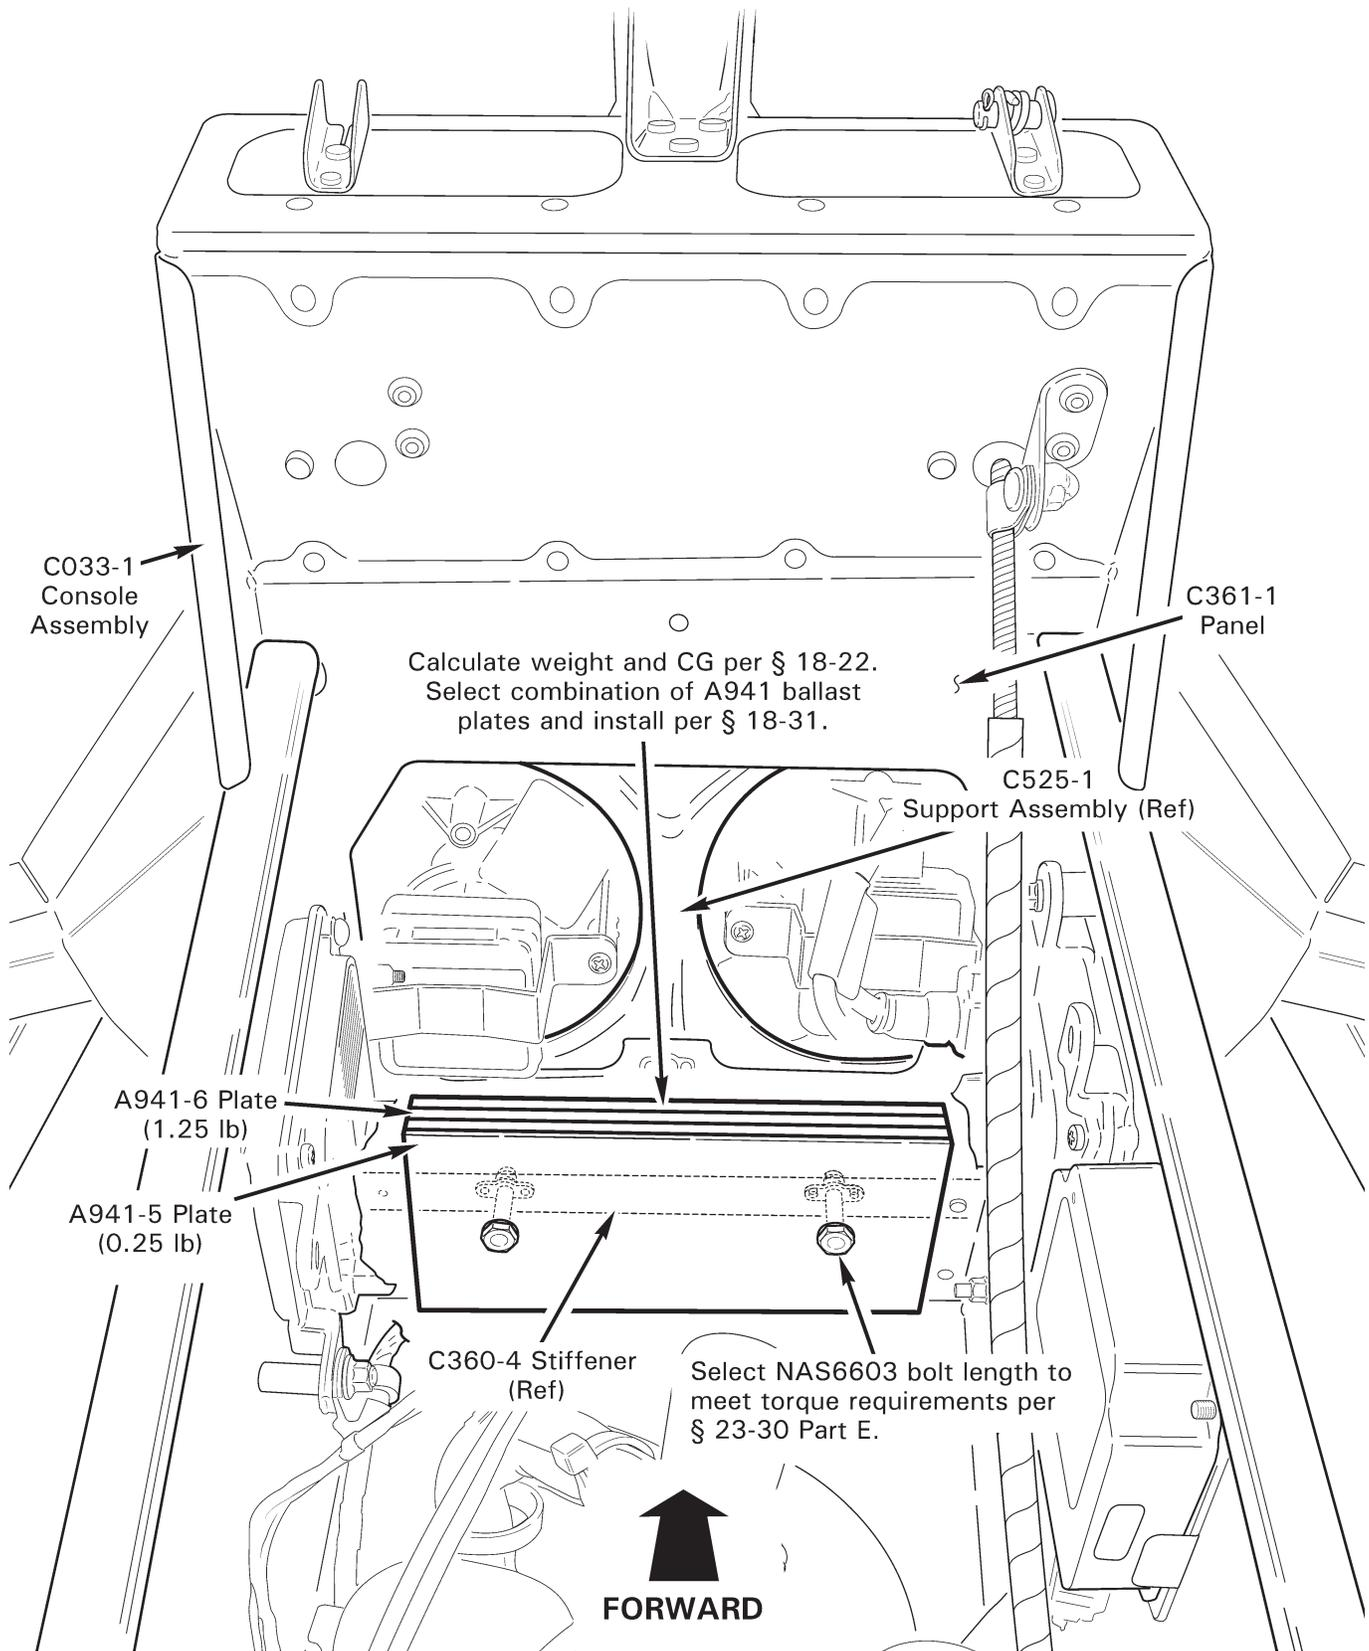

FIGURE 18-4 NOSE BALLAST
3. Refer to Figure 18-4. If installed, remove hardware securing A941-5 or -6 (or -2 or -3) ballast plate(s) to C361-1 panel.